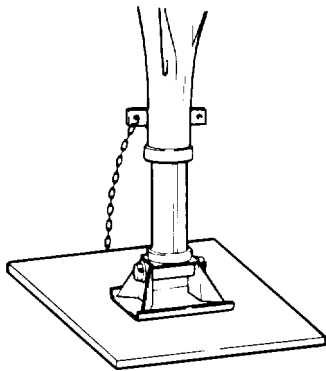

Figure 3-4. Landing gear
a. Use a soft cloth to remove any buildup of grease and dirt (figure 3-4).